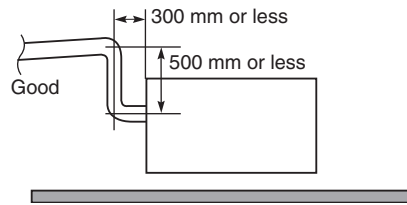

Fig. 3-45
- If it is necessary to increase the height of the drain pipe, the section directly after the connection port can be raised a maximum of 500 mm. Do not raise it any higher than 500 mm, as this could result in water leaks. (Fig. 3-45)